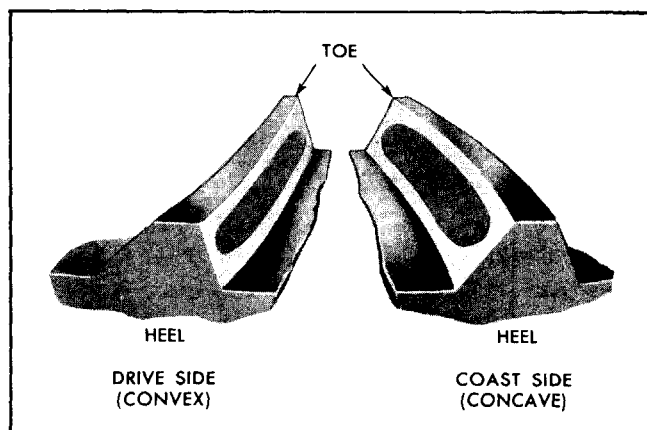

Fig. 4-19 Desired Tooth Contact Pattern
The desired tooth contact pattern (Fig. 4-19) is one which starts near toe end of tooth and extends along toward, but not to heel of tooth. The pattern on coast may be, and usually is nearer top of tooth. This pattern has a large contacting area, centered between top and bottom of tooth, and should result in minimum noise during operation. (All gear trains produce a certain amount of noise.)
6. Observe pattern on ring gear teeth and compare with Figs. 4-19, -21, -22, -23, and -25.
**NOTE:** In many cases the tooth contact pattern may not look exactly like those illustrated in Figs. 4-19, -21, -22, -23, and -25. In such case, try adjusting backlash to several different values, from minimum to maximum, testing tooth contact after each adjustment. By this means a pattern should be found which will look similar to one of those illustrated in the above figures. Correction can then be made by changing backlash or pinion position as may be required.